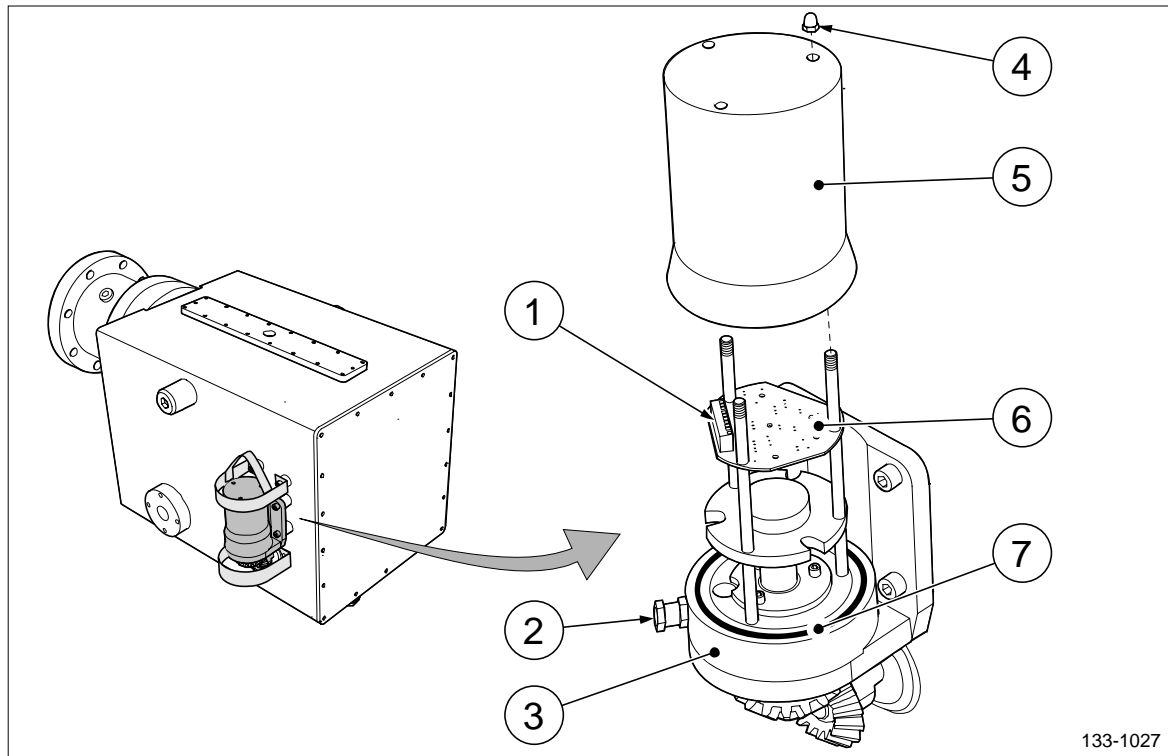

Figure 1 Feed back unit with internal equipment.
4. Inspect the cable gland (pos 2, figure 1) by making sure the glands of the cables are
5. Loosen the three screws (pos 4, figure 1) on the feed back unit cover (pos 5, figure 1) and remove the cover.
6. Inspect all internal wiring and the connection terminal(s) (pos 1, figure 1) visually. Make sure the wiring is intact and that the screws on the connection terminal(s) are properly tightened. Tighten if necessary.
7. Inspect the the PC-board (pos 6, figure 1). Consult Rolls-Royce Marine Global Support Network if the card is damaged.